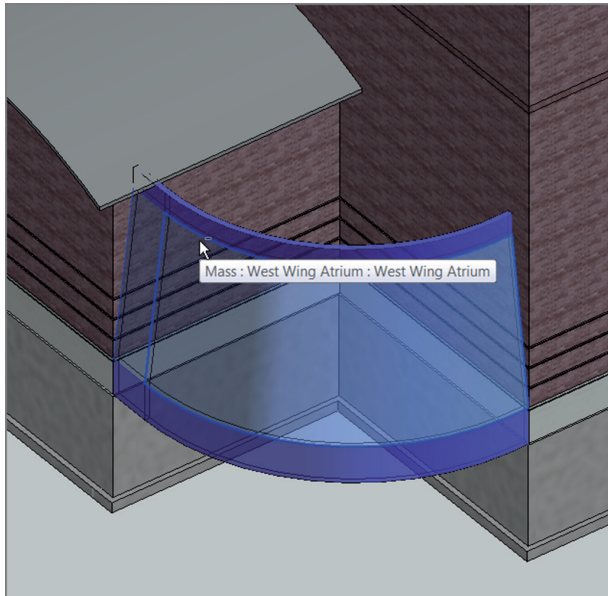

FIGURE BC1.50: Selecting the faces to host the curtain system
11. Pick the two sloping faces of the mass, as shown in Figure BC1.50.